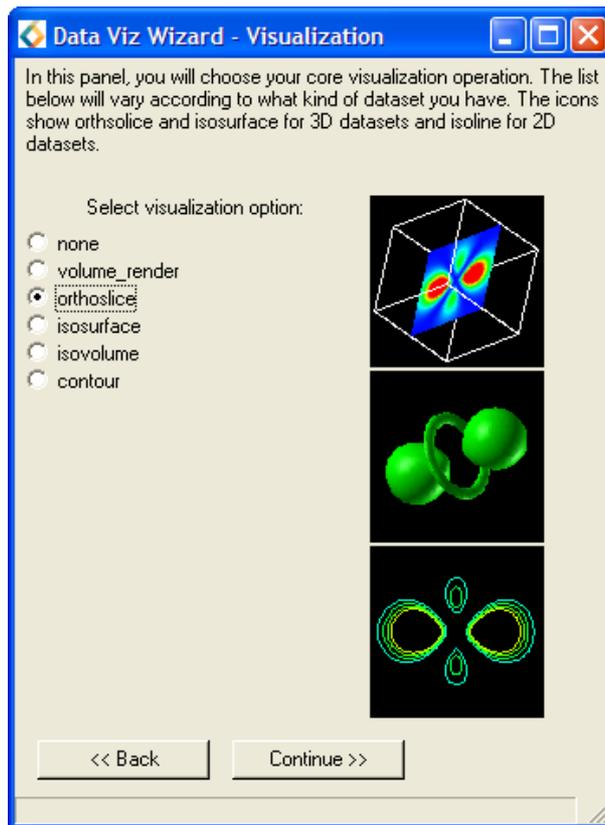

Figure C.15: Data Viz Wizard - Visualization
- In the **Visualization** window select **orthoslice** and **Continue >>** (Figure C.15).